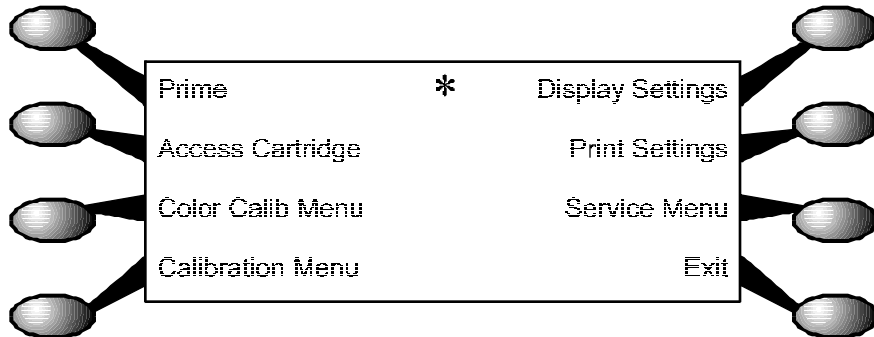

Figure 3-19. Utility Menu.
1. Select "Utility Menu" from the Main Menu. This brings up the Utility Menu as shown in Figure 3-19.
1. Select “Utility Menu” from the Main Menu. This brings up the Utility Menu as shown in Figure 3-19.